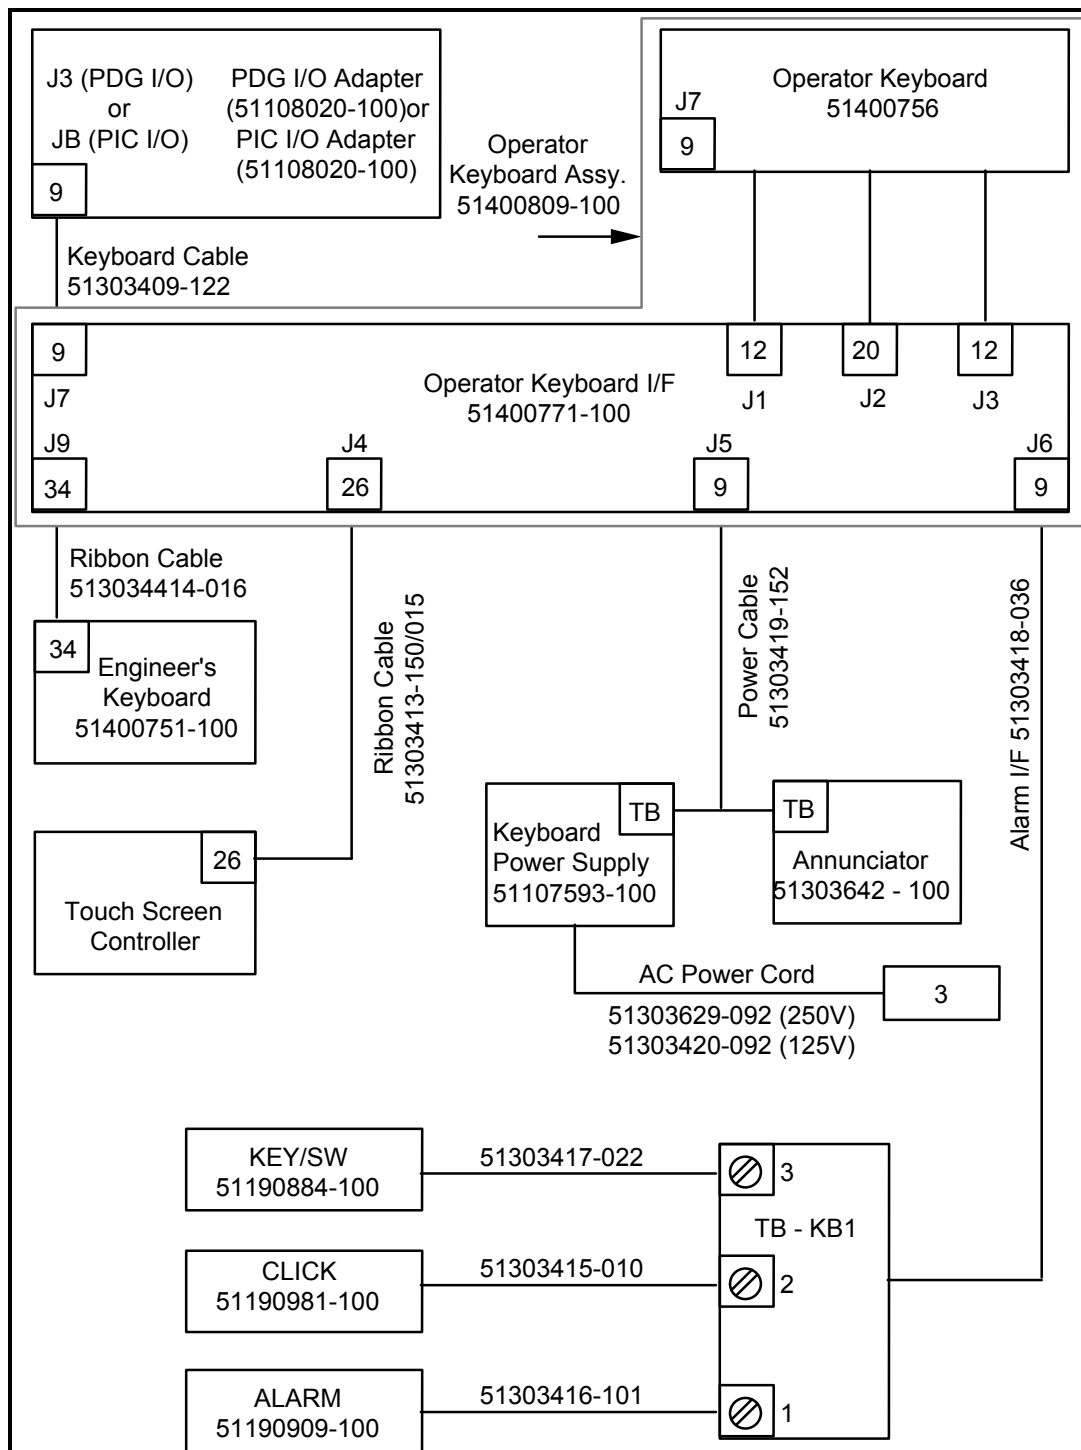

Figure 7-4— Keyboard/Touchscreen Cabling (Standard) for Early Production Units 1262
- Figure 7-4 illustrates the older (standard) keyboard and touchscreen. A separate keyboard power supply is required—which also drives the touchscreen.